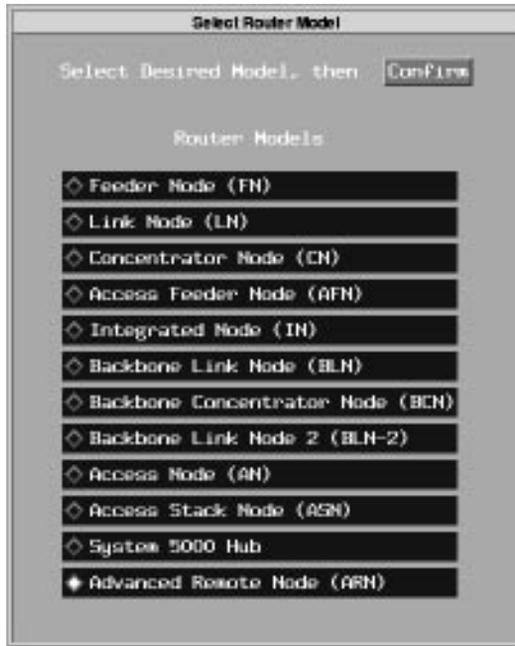

Figure 1. Selecting the ARN Router Model
2. **Select Advanced Remote Node (Figure 1).**